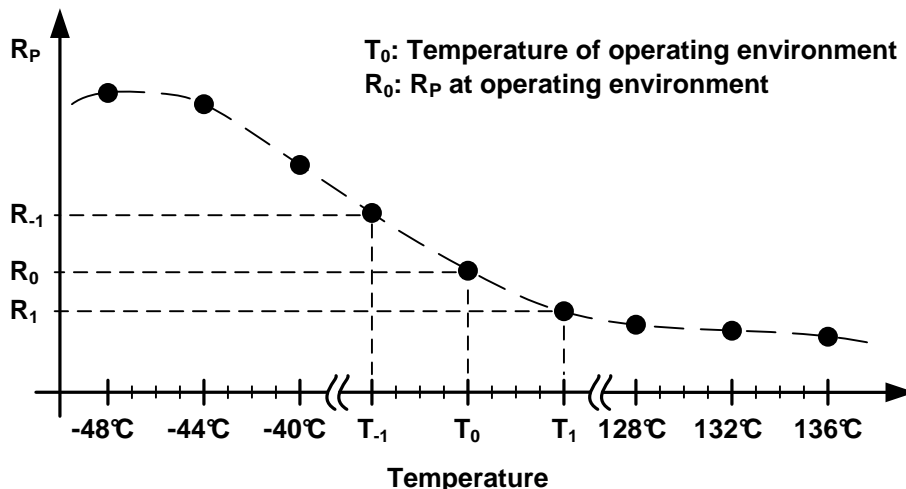
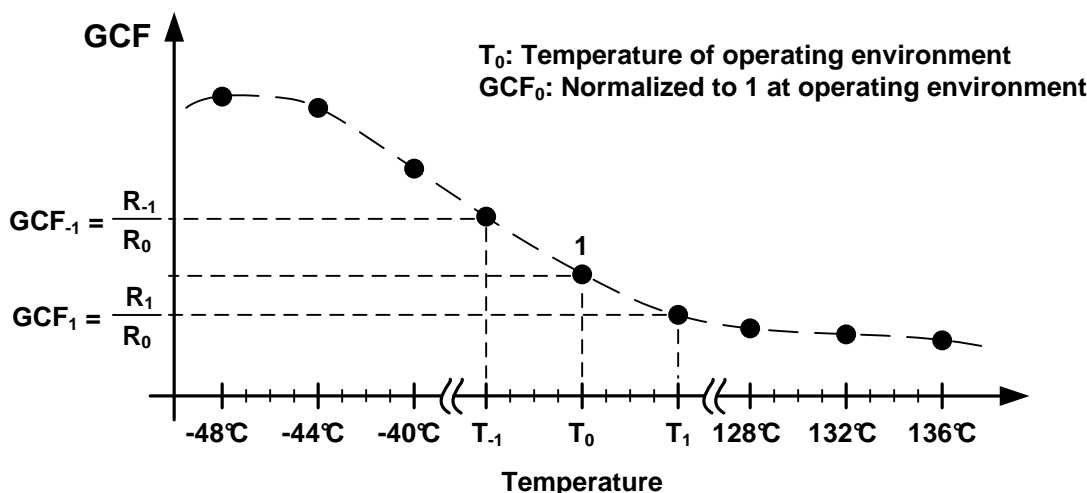

Figure 20. R_P Measurement Example
Figure 21. GCF Normalized Example
3. **Normalizing R_P :** Once all R_P values have been read and logged for the whole LUT temperature range as illustrated in Figure 20 the data must be normalized to the intended ambient operating temperature T_0 . This is done by dividing each R_P data point by R_0 , the measured R_P at the ambient operating temperature for each temperature of the LUT register. This ratio provides the gain correction factor coefficients (GCF) as shown in Figure 21. If the ambient operating temperature T_0 does not fall on one of the 4°C incremental points of the LUT then R_0 will need to be interpolated.